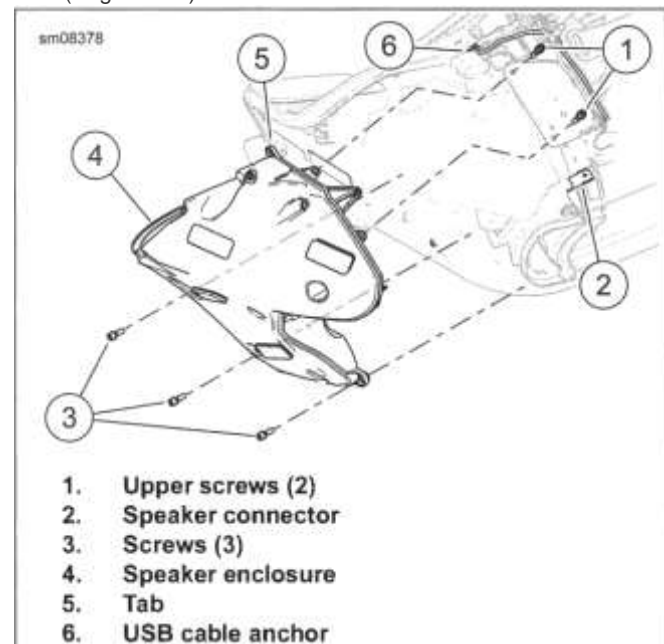

Figure 8-81. Speaker Enclosure (right side shown)
2. See Figure 8-81. Disconnect speaker connector (2).
4. Right side: Separate USB cable anchor (6) from tab (5) at upper corner of enclosure.
5. See Figure 8-81. Install speaker enclosure (4) to inner fairing. Start all screws (1, 3).
6. Tighten both upper screws (1) then lower screws (3) from front to rear.